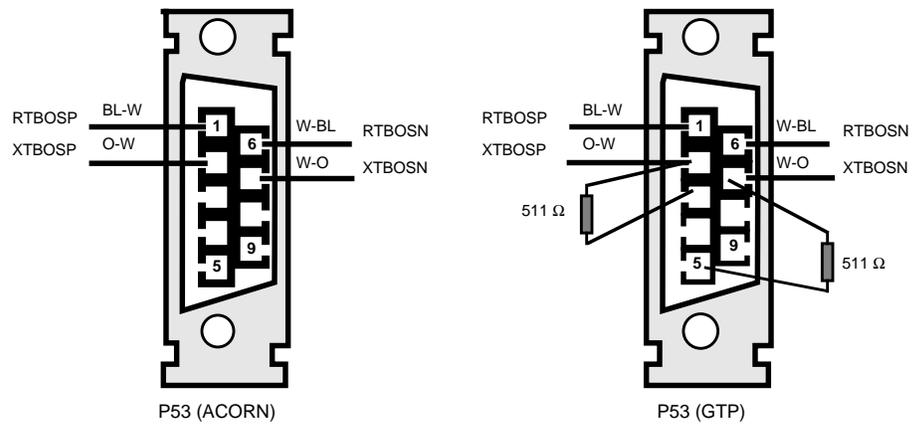

Figure 3-56. TBOS Connections
- Step 2:* Route the fiber in accordance with Figure 3-56. Note the entry is from the left side of the front of the bay through the wire slots in the ARM shelf front trough under the associated OLIU. The OLIU's will not be in place at this time so enough slack must be left to reach the terminating points on the units when they are installed.